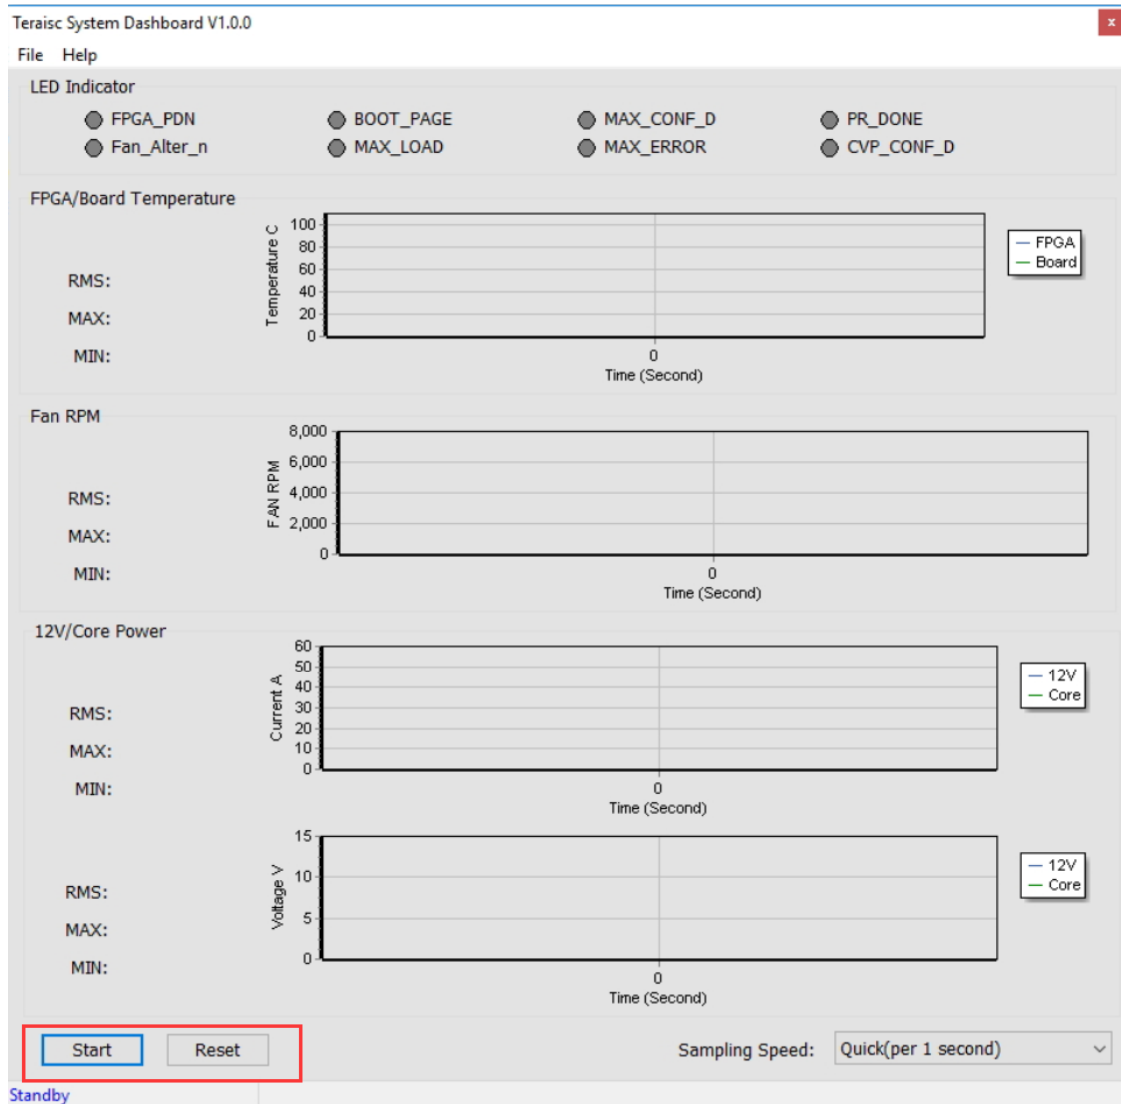

Figure 8-17 Start and Reset button
- **Start/Stop:** As shown in Figure 8-17, there is a Start button at the bottom-left of the GUI window. Click it to run the program (Start will change to Stop), it will show the TR10a-LPQ board status. Users can press Stop button to stop the status data transmission and display.